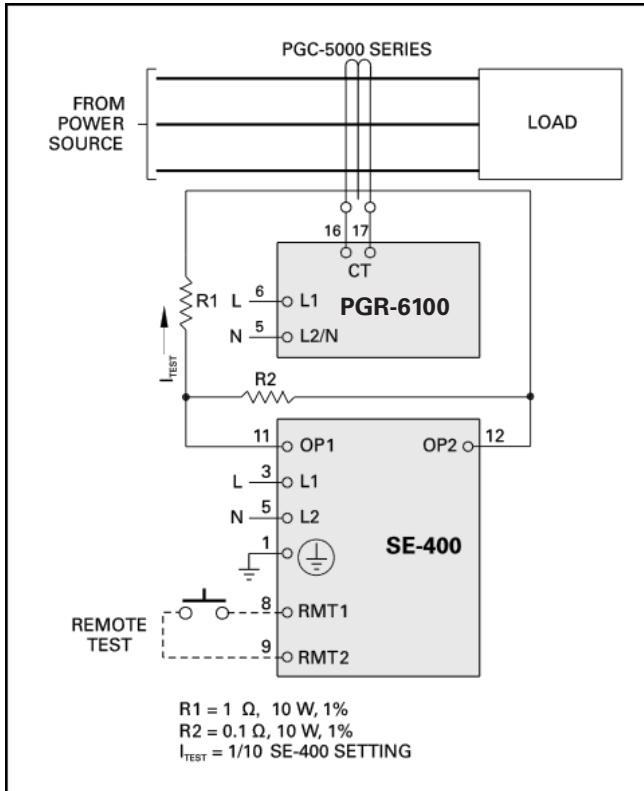

FIGURE 8. Ground-Fault-Test Circuit.
4. Verify proper reaction of the circuit-interrupting device in response to a simulated or controlled ground-fault current. To simulate ground-fault current, use CT-primary current injection. Fig. 8 shows a test circuit using the SE-400 Ground-Fault-Relay Test Unit. The SE-400 has a programmable output of 0.5 to 9.9 A for a duration of 0.1 to 9.9 seconds. Fig. 8 shows the use of resistors that reduce the injected current to 10% of the SE-400 setting. Set the test current to 120% of the PGR-6100 setting. Inject the test current through the CT window for at least 2.5 seconds. Verify that the circuit under test has reacted properly. Correct any problems and re-test until the proper reaction is verified.